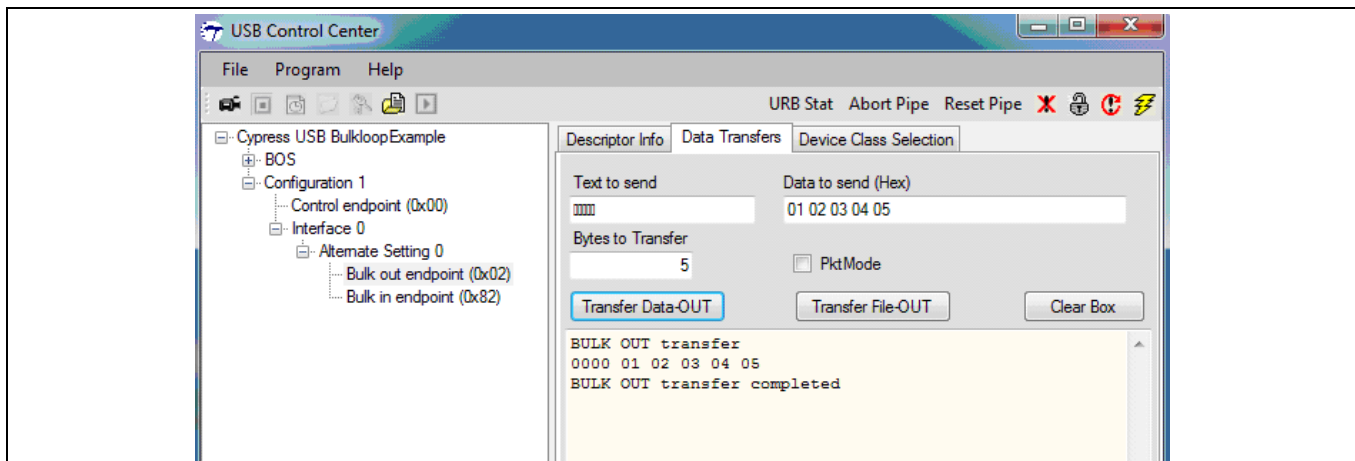

Figure 24 . BULK OUT Transfer
- Expand all the sub-fields under the ‘Cypress USB Bulkloop Example’ entry. If you modified and built the firmware as explained in steps 1 to 6, then you will see BULK EP2 OUT and BULK EP 2 IN appear inside Interface 0, Alternate Setting 0 (Figure 24).
- To perform a BULK OUT transfer, click the **Data Transfers** tab, then select the **BULK out endpoint (0x02)** in the left pane. Enter the number of bytes to transfer in the **Bytes to Transfer** field and the data to be transferred in the **Data to send (Hex)** field. The Control Center automatically inserts spaces between pairs of hex digits. Click on **Transfer Data-OUT**. Figure 24 shows the transfer of 5 bytes to the BULK OUT endpoint (0x02).